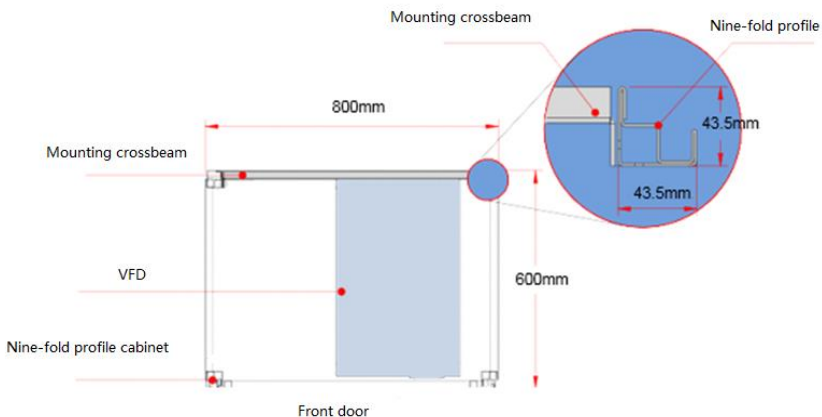

Figure 4-11 Top view of mounting a GD270 280–500kW VFD in a cabinet
1	Mount the crossbeam for VFD fixing in the nine-fold profile cabinet. (See Figure 4-11.)
- (1) The nine-fold profile cabinet (PS cabinet) is recommended. Figure 4-11 shows the enlarged view of the nine-fold profile cross section.